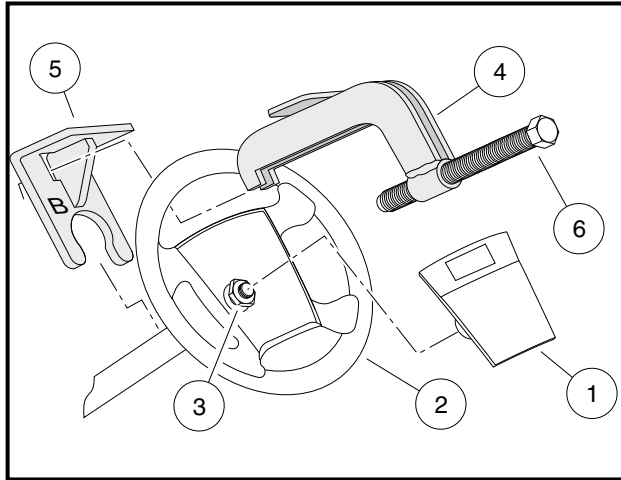

Figure 7-1 Steering Wheel Puller
- 5.1. Place the puller anvil (4) through the top opening of the steering wheel **(Figure 7-1, Page 7-2).**
- 5.2. Insert the anvil feet through the two slots in the base plate (marked “B”) (5) as shown **(Figure 7-1, Page 7-2).**